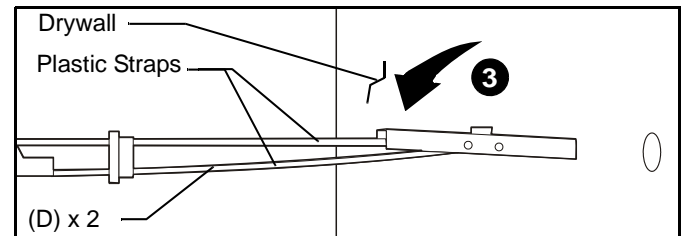

Figure 14
3. Hold metal channel on anchor (D) flat alongside plastic straps and slide channel through hole. (See Figure 14)